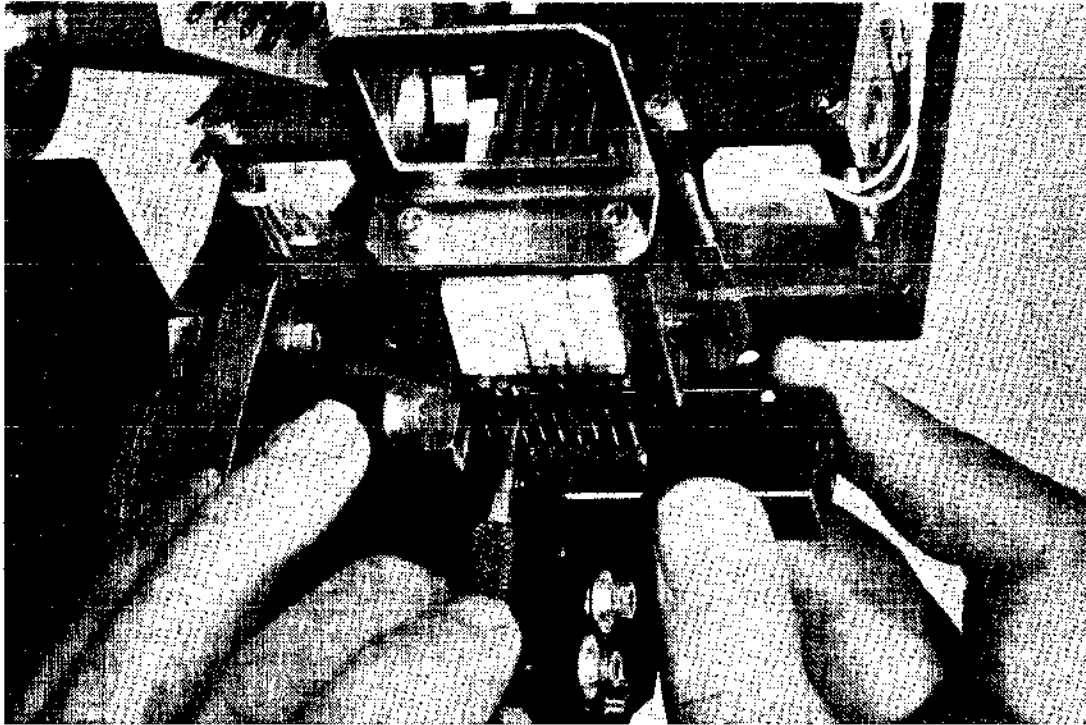
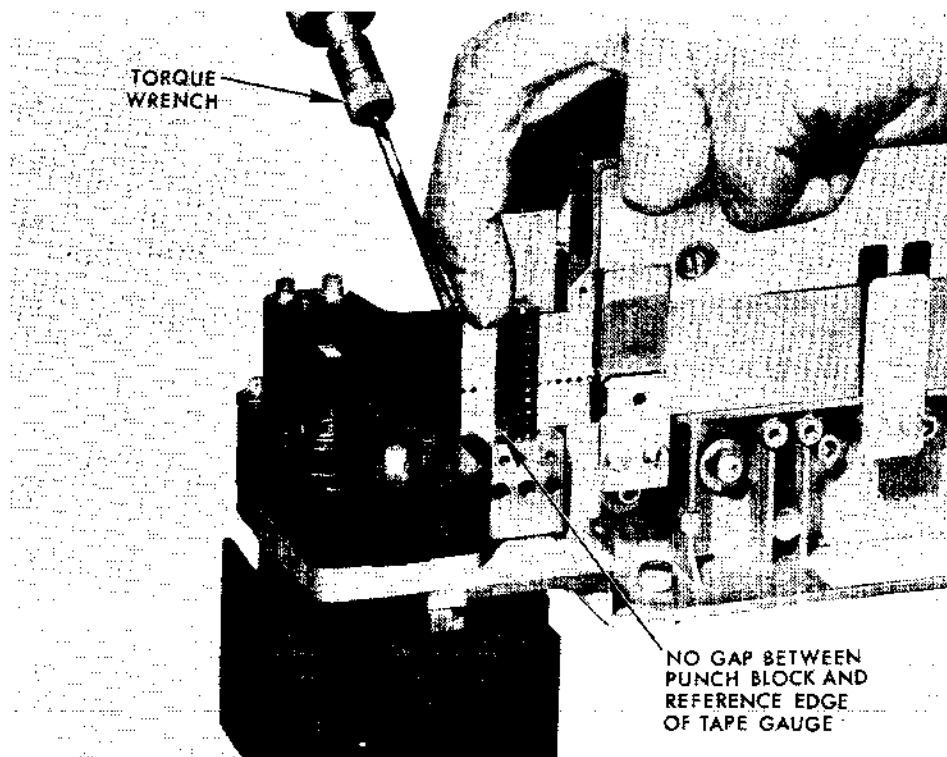

Figure 6-3. Punch Pin Alignment and Insertion into Pin Driver.
Figure 6-4. Installation of Punch and Pin Block Assembly.
- a. Remove the screw (F) which holds the chad tube to the punch and pin block assembly and remove the chad tube.
- b. Remove the two 6-32 x 1/2 socket head screws (K), lock and flat washers which hold the punch and pin block assembly to the perforator housing. Remove the old punch and pin block assembly.
- e. Align all pins so that they are perpendicular to the punch block. See Figure 6-3.
- g. Install the punch and pin block assembly to the perforator housing using the two screws (K) and new lock washers. REMEX recommends that new lock washers (P/N 713541-304) be used each time a punch block is installed. Do not tighten screws.
- h. Install REMEX tape gauge so that the reference edge of the gauge is flush against the reference edge of the perforator housing. Move the punch block as close to the housing as possible. Holding firmly on the gauge pull up on the punch block so that there is no gap between the reference edge of the punch block and the gauge. Refer to Figure 6-4. Tighten the two screws (K). Use a torque wrench and set the screws to 20 in/lbs.